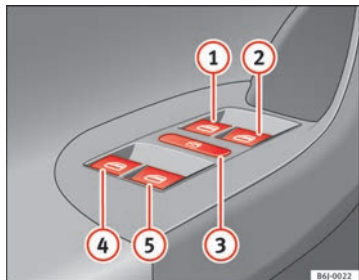

Fig. 51 Detail of the driver door: controls for the front and rear windows
Buttons ⇒ fig. 51 ①, ②, ④ and ⑤ have two positions for opening windows and two for closing them. This makes it easier to open and close windows to the desired position.